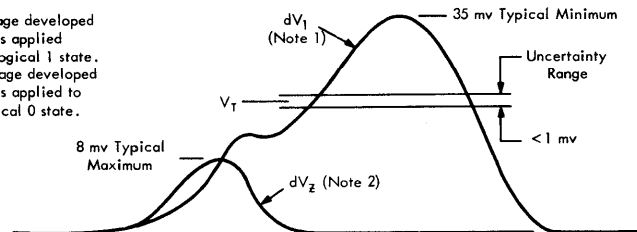

FIGURE 2 — THRESHOLD CHARACTERISTICS
- V_T — Differential input signal level just sufficient to cause an output when coincident with a strobe signal. See Figure 2.